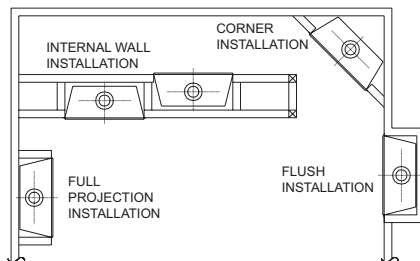

Figure 2 - Possible Locations for Installing Fireplace
- Figure 2 shows a plan view of a few common locations.